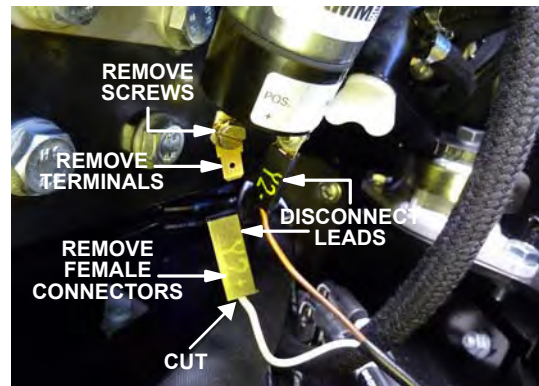

Figure 3. Disconnect Leads and Remove Terminals
3. Disconnect the electrical leads (Y2+ and Y2-) from the speed solenoid. See Figure 3.
- Using a small flat-blade screwdriver, remove the two screws securing the blade terminals (Figure 3) to the speed solenoid. Set the screws aside to be used later. Remove and discard the terminals.
- Cut off the existing female connectors from the wire leads (Figure 3) and discard the connectors. Take note of the polarity of the wires for correct reconnection later.